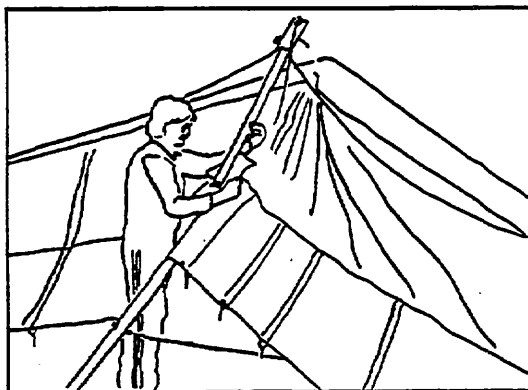
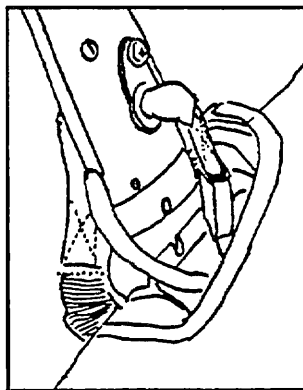
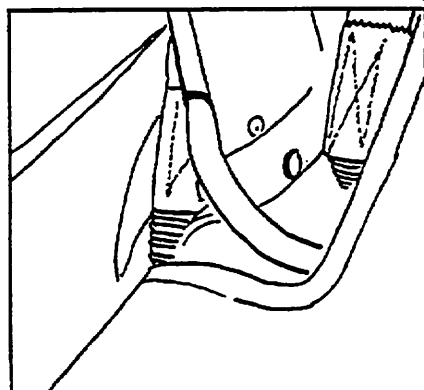

Figure 10
Figure 11
Figure 12
5) Spread the wings almost all the way. Lift the kingpost, remove the top and bottom kingpost protectors entirely, (Figure 10) and set the kingpost on the kingpost base ridge on the keel, *making sure the CG locating pin engages in one of the slots in the track.* (Figure 11) **MAKE SURE YOU SET THE KINGPOST IN THE PROPER SLOT SO THAT YOUR CG IS THE DESIRED POSITION.** (Figure 12, 13) (You may see only one slot, if the other slot was taped over at the factory, following the factory test flight.) Usually, the correct trim will be obtained with the CG set in one of the two middle adjustments of the four positions available. (See the diagram for an illustration of the four available positions.) If the pin is in the forward of the two holes in the kingpost base, then placing the pin in the forward of the two slots on top of the keel will give the *forward middle* CG adjustment. If the pin is in the aft hole in the base, placing the pin in the aft slot will give the *aft middle* CG adjustment. The forward hole in the base in combination with the aft slot on the keel gives the full aft CG adjustment, and the aft hole / forward slot gives the full forward CG adjustment.